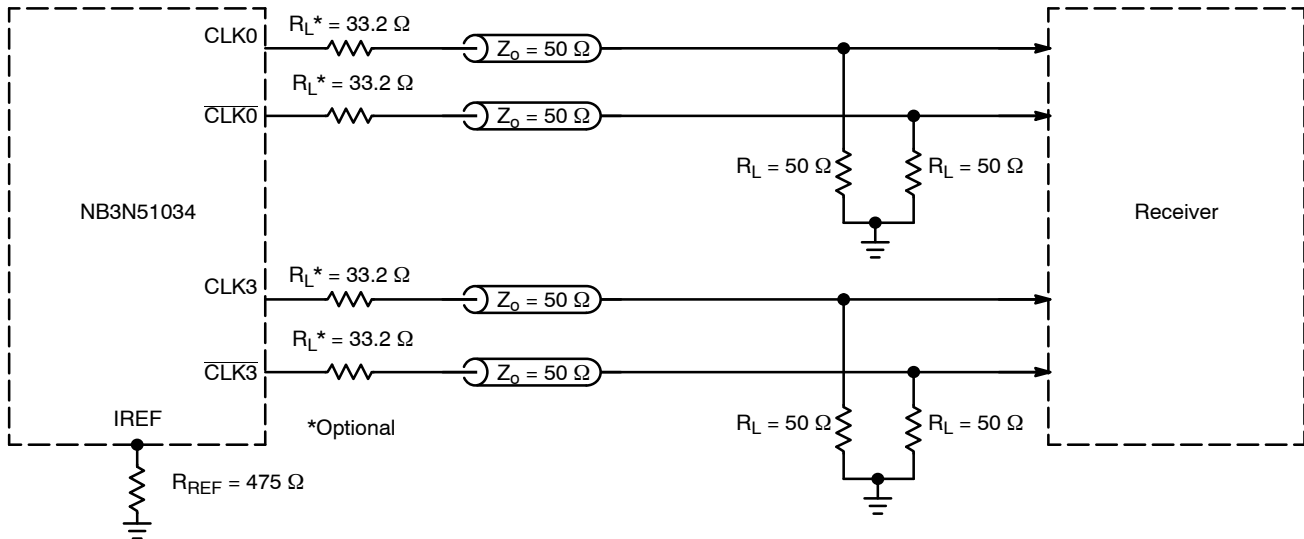
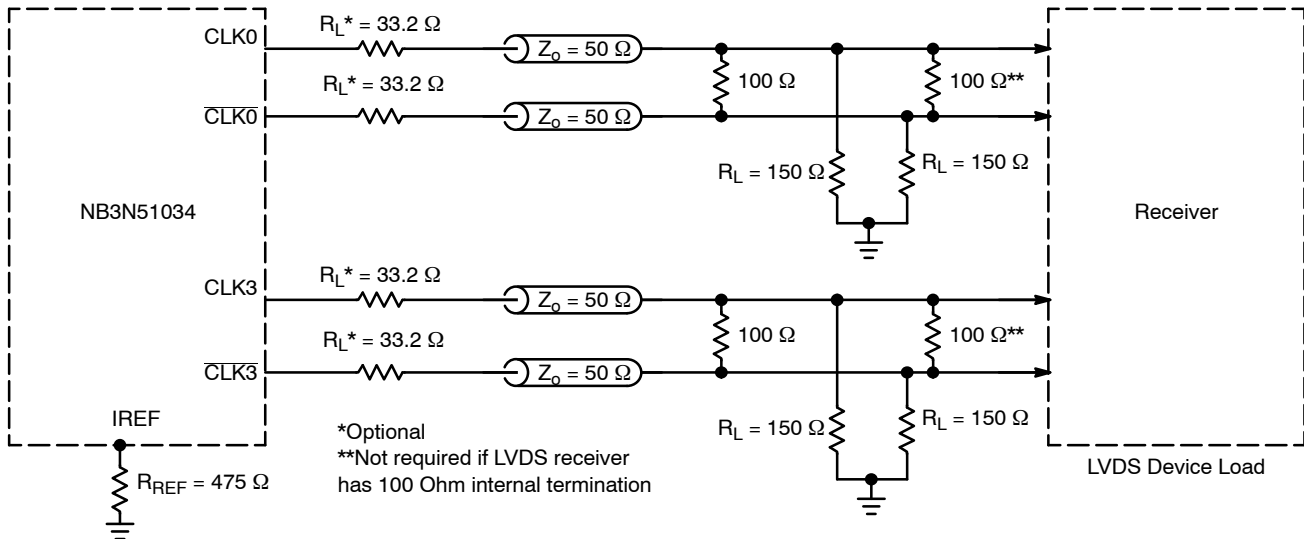

Figure 7. Typical Termination for HCSL Output Driver and Device Evaluation
Figure 8. Typical Termination for LVDS Device Load
- VDDXD and VDDODA power pins must be shorted to power supply voltage V_{DD} and GNDXD and GNDODA ground pins must be shorted to power supply ground GND. Measurement taken with outputs terminated with R_S = 33.2 Ω, R_L = 50 Ω, with test load capacitance of 2 pF and current biasing resistor set at 475 Ω. See Figure 7. Guaranteed by characterization.
12. VDDXD and VDDODA power pins must be shorted to power supply voltage V_{DD} and GNDXD and GNDODA ground pins must be shorted to power supply ground GND. Measurement taken from differential output on single-ended channel terminated with $R_S = 33.2 \Omega$, $R_L = 50 \Omega$, with test load capacitance of 2 pF and current biasing resistor set at 475 Ω . See Figure 7. Guaranteed by characterization.
19. VDDXD and VDDODA power pins must be shorted to power supply voltage V_{DD} and GNDXD and GNDODA ground pins must be shorted to power supply ground GND. Measurement taken from differential output on single-ended channel terminated with $R_S = 33.2 \Omega$, $R_L = 50 \Omega$, with test load capacitance of 2 pF and current biasing resistor set at 475 Ω . See Figure 7. This parameter is guaranteed by characterization. Not tested in production.
The outputs can be terminated to drive HCSL receiver (see Figure 7) or LVDS receiver (see Figure 8). HCSL output interface requires 49.9 Ω termination resistors to GND for generating the output levels. LVDS output interface may not